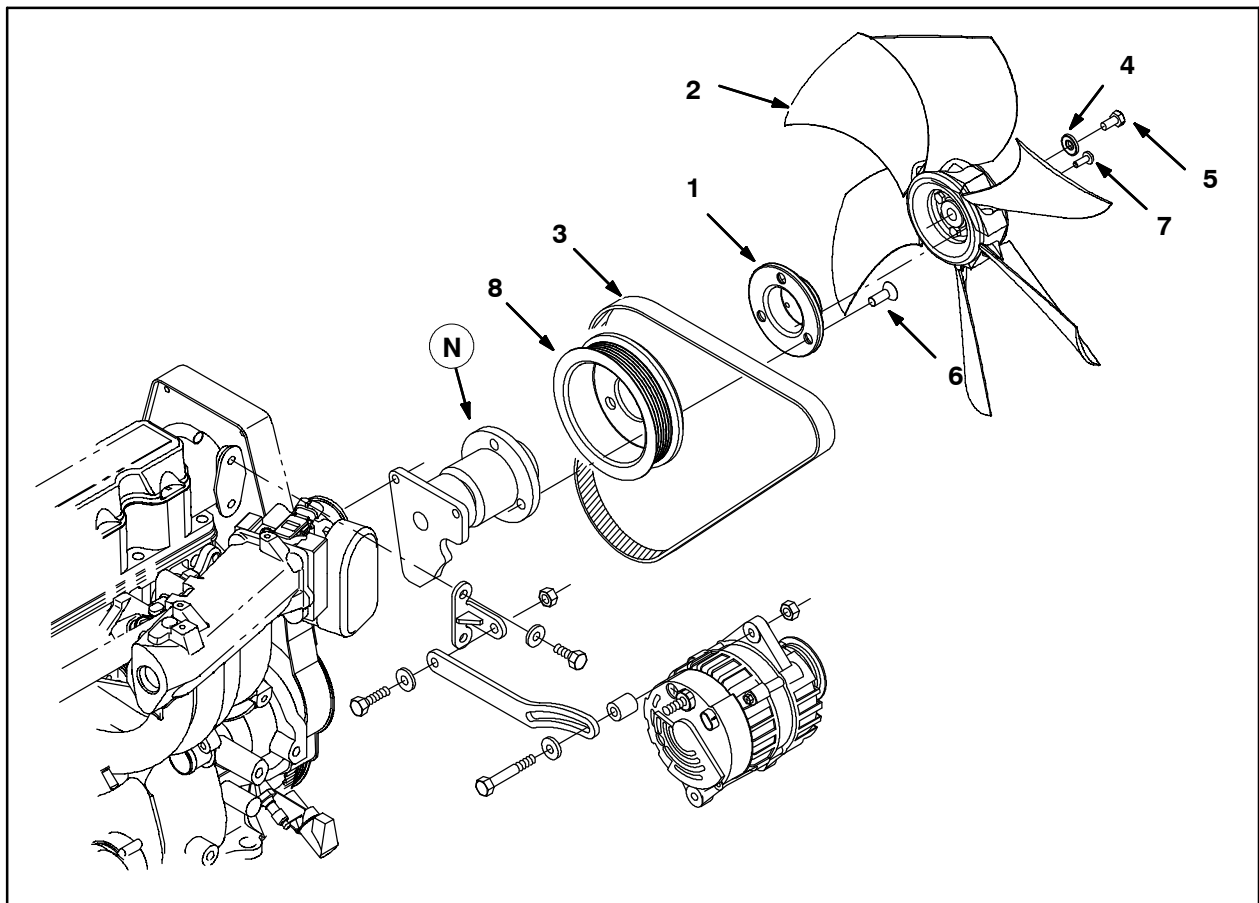

FIG. 6
4. Align the holes in the new sheave (8) and fan spacer (1) with the holes in the fan base (N) and slide the sheave and fan spacer onto the fan base. Refer to Fig. 6.
5. Apply Loctite 242 to the three flat screws (6) and use the flat screws to secure the fan spacer (1) to the sheave (8). Torque to 21.7-28.5 Nm (16-21 ft. lbs). Refer to Fig. 6.
6. Install the new belt (3) onto the engine and tighten the belt so there is only a slight bit of tension. Refer to Fig. 6.
7. Install the new fan (2) onto the fan spacer (1). Be sure the nuts holding the fan together point out towards the radiator and the three threaded holes in the fan are aligned with the three threaded holes in the fan spacer. Refer to Fig. 6.
8. Apply Loctite 242 to the hex screw (5) and use the hex screw and belleville washer (4) to secure the fan (2) onto the fan base. Torque to 13–16.5 Nm (9.6–12.2 ft. lbs). Be sure the three threaded holes in the fan remain aligned with the three threaded holes in the fan spacer (1). Refer to Fig. 6.
9. Apply Loctite 242 to the three pan screws (7) and use the pan screws to secure the fan (2) to the fan spacer (1). Torque to 3.3–4.3 Nm (2.4–3.2 ft. lbs). Refer to Fig. 6.
13. Tighten the belt (3). Refer to Fig. 6.